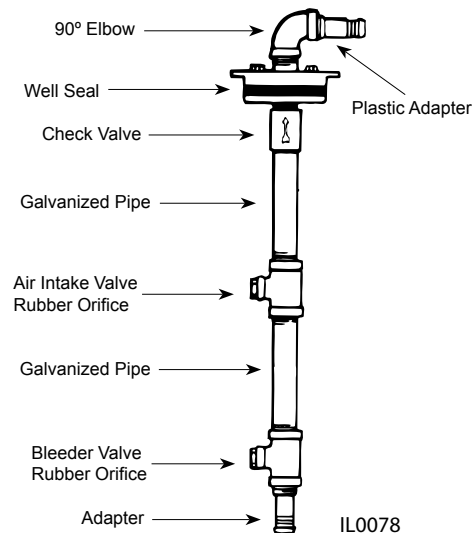

Figure 7
- a. On a standard pressure tank installation, assemble bleeder orifice and pipe assembly as shown (See Figure 7).